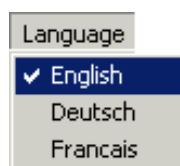

Figure 4-2: Language drop-down menu
- 2- Choose the working language from the drop-down menu in the top, left-hand corner of the window, as shown in Figure 4-2. The selected language is used by default the next time the VM600 MPS1 software is started.